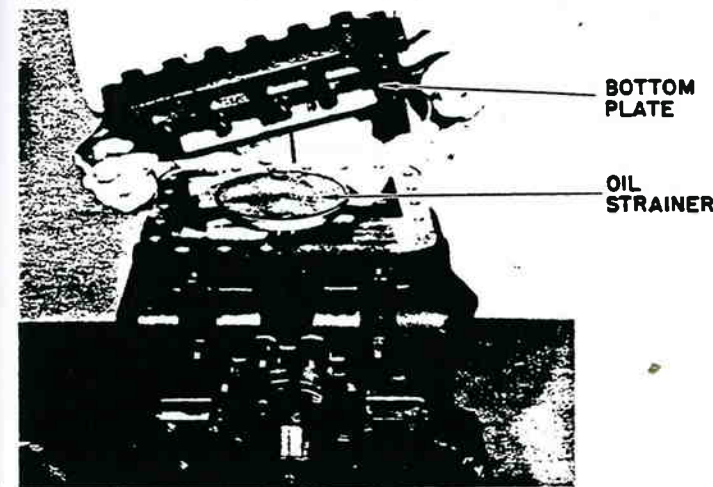

Figure 16-29: Bottom Plate Removal
9. Turn the compressor over, bottom side up, and remove the bottom plate (figure 16-29). Scrape off all gasket material.